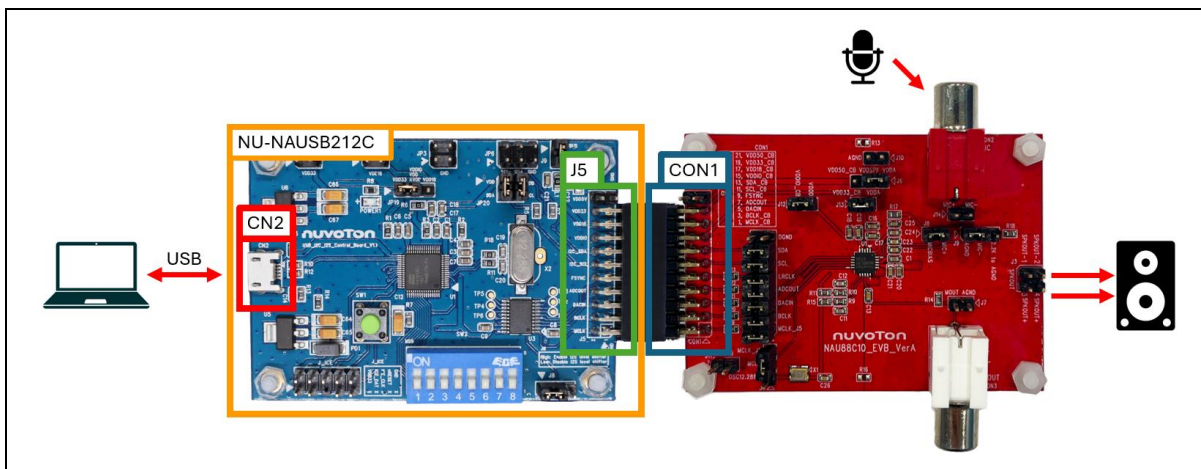

Figure 2-4 NU-NAUSB212C Connection
2. Connect J5 of NU-NAUSB212C to JP2 of NL-NAU88C10. Figure 2-4 is the diagram after two boards are connected to each other.